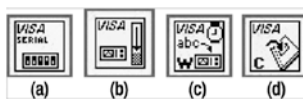

Figure 10-16. (a) The VISA Configure Serial Port Function, (b) the VISA Flush I/O Buffer Function, (c) the VISA Write Function, and (d) the VISA Close Function
Configure Serial Port: This function sets up the serial port's resource name, baud rate, parity, stop bits, flow control, and data bits (see Figure 10-16(a)).
- VISA Flush I/O Buffer: This function deletes the data that is stored on the buffer, allowing for more information to take its place (see Figure 10-16(b)).
- VISA Write: This function writes data to the serial port you specified in the VISA Configure Serial Port Function (see Figure 10-16(c)).
- VISA Close: This function closes out the serial communication session (see Figure 10-16(d)).